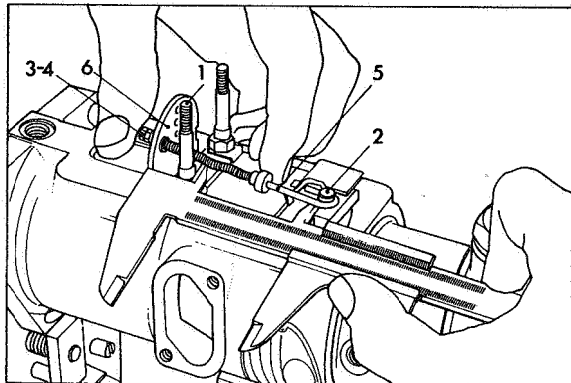

Fig 29 Setting governor linkage
Set the link length with a vernier gauge as shown in Fig 29 so that the correct internal dimension is obtained between the larger diameters of the governor control cover stud (1) and the metering valve lever pin (2). Adjustment is made by slackening the linkage locking nut (3) and tightening or loosening the linkage nut (4) on the end of the hook linkage (5). When setting, apply light pressure to the governor control arm (6) to hold the metering valve in the fully open position. Ensure that the vernier gauge is held parallel to the axis of the pump. After setting, tighten linkage locking nut.